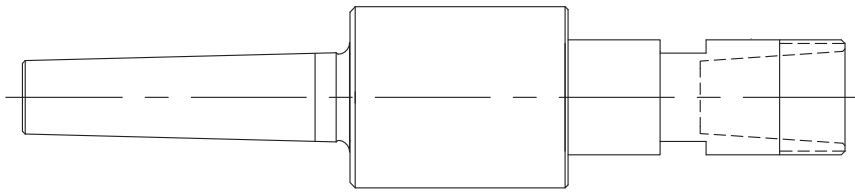

Figure 3. This ER 32 collet chuck/live center is a unique special.
■ A customer determined that a collet chuck would be the most efficient way to grind a batch of expensive parts for rework. A 3-jaw chuck would not deliver the required accuracy, and indicating a 4-jaw for each part would be too time-consuming. The problem with the collet chucks was they could not be mounted on their machines. We designed an integrated collet chuck and Morse-taper live center with a modified spindle (Figure 3). This not only solved the installation problem, but also added process efficiency.